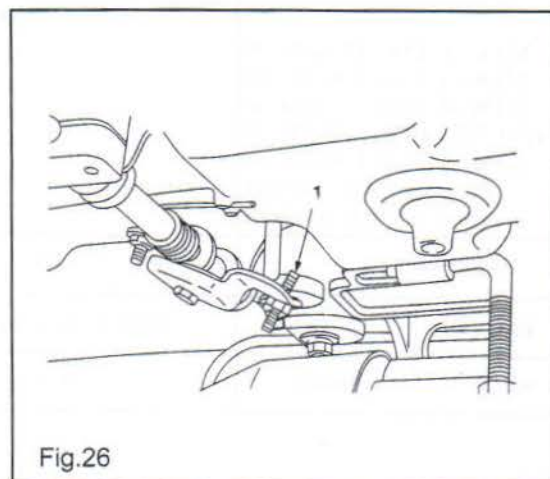

Fig.26
- 7) Fit cat ⑦ to the belt cover A.
18. ADJUSTING THE HEIGHT OF THE KNEE LIFTER (Fig.26, 27)